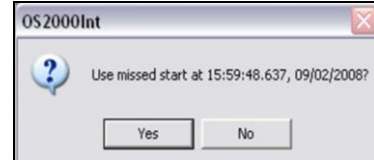

Figure 89: Always Ready Start Dialog Box
- a. Click **Reset > YES** to reset the time to zero. The message in *Figure 89* displays on the screen at this time.